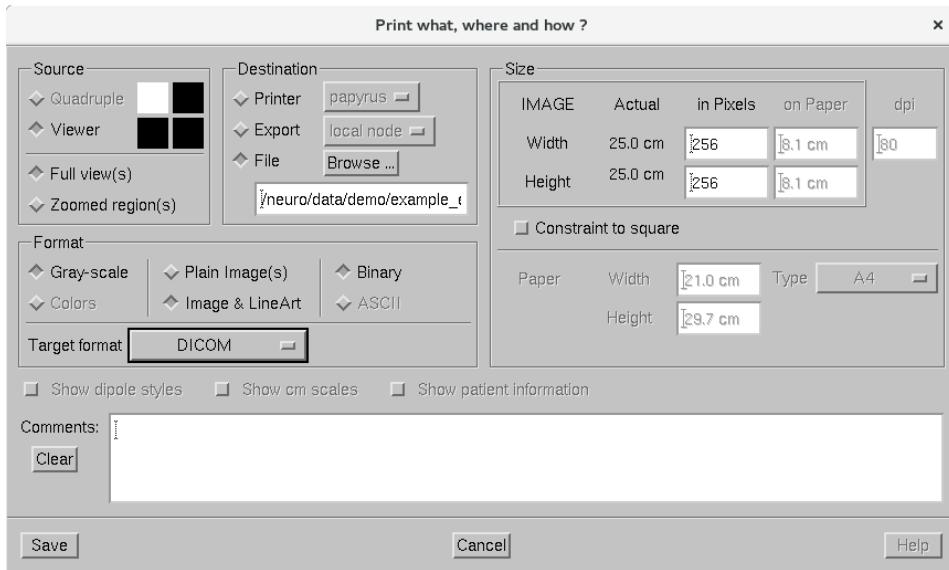

Figure 42. *Mrilab* printing dialog, DICOM export.
- Select **File -> Print**. A dialog pops up (Figure 42).